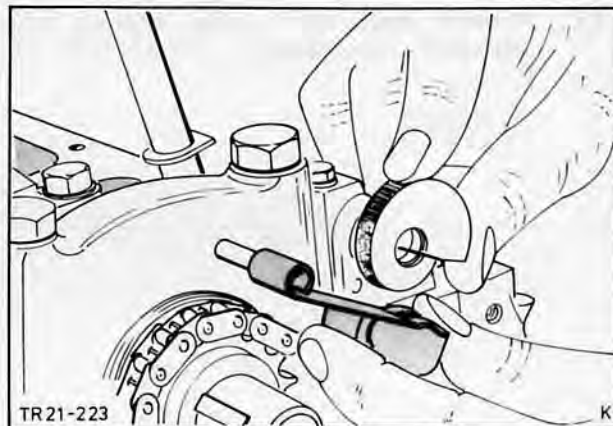

Fig. 38. Detach chain tensioner arm
21. Withdraw tensioner arm from pin of front mainbearing cap and detach chain tensioner (2 bolts), Fig. 38.